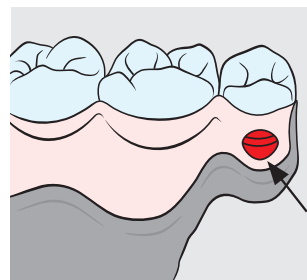

Fig. 4
8. If possible, drill an escape channel in the denture for the acrylic (Fig. 4).